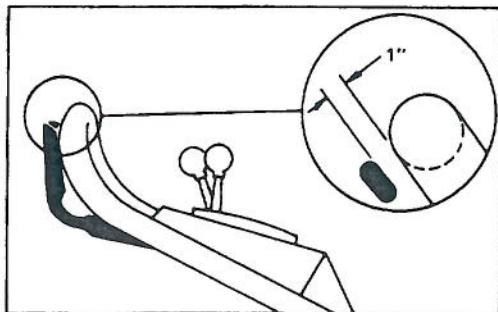

Figure 18
3. CHECK ADJUSTMENT — Slowly pull mower backward while control bar is gradually moved toward handle. Adjustment is correct when rear wheels stop turning and control bar is about 1-inch from handle (Fig. 18).